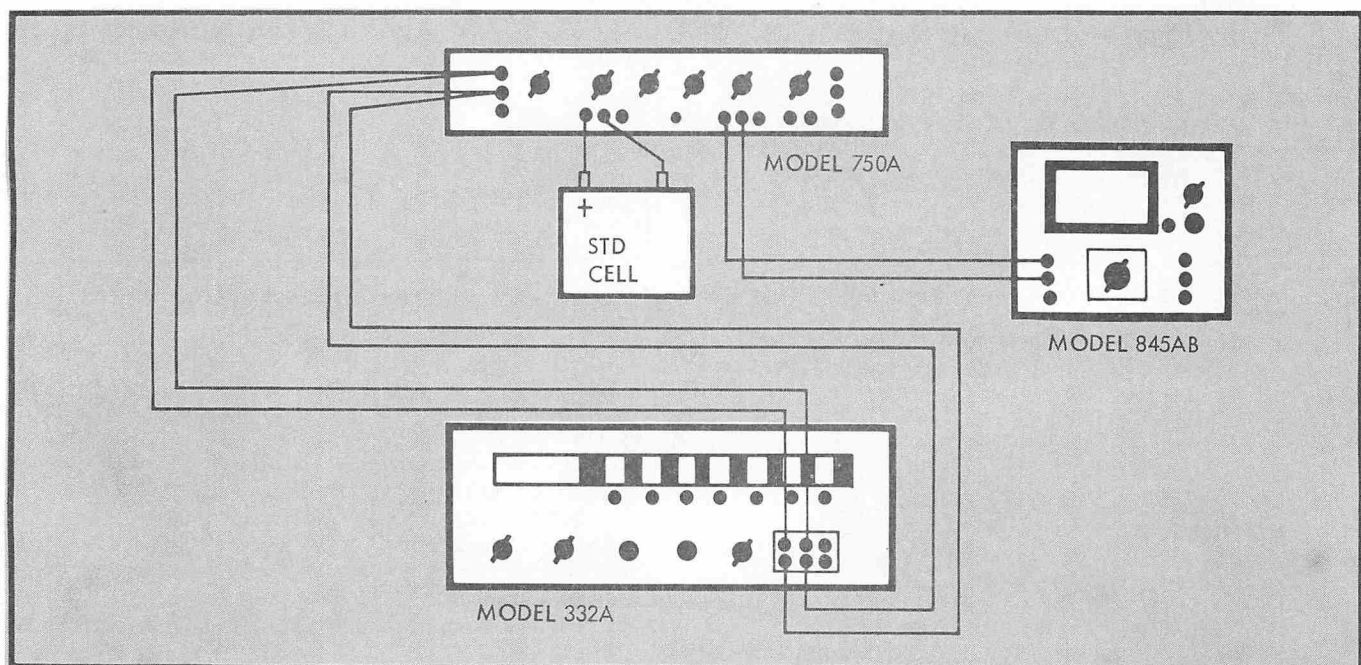

Figure 4-4. CALIBRATION SETUP
a. Connection of the calibrating equipment is illustrated in Figure 4-4. Connect the 332A OUTPUT to the output voltage terminals of the 750A. Connect the standard cell to the std. cell terminals, and connect the 845AB to the null detector terminals, of the 750A. Use the remote sensing feature of the 332A. Set the standard cell dials to the correct voltage, and set the galvanometer switch to open. Set the 845AB for reduced sensitivity.